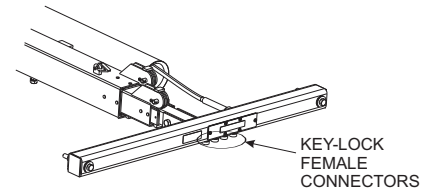

Figure 10. Location of Female Connectors
- Locate the 4 key-lock female 3-pin DIN connectors on the T-bar. See Figure 10.